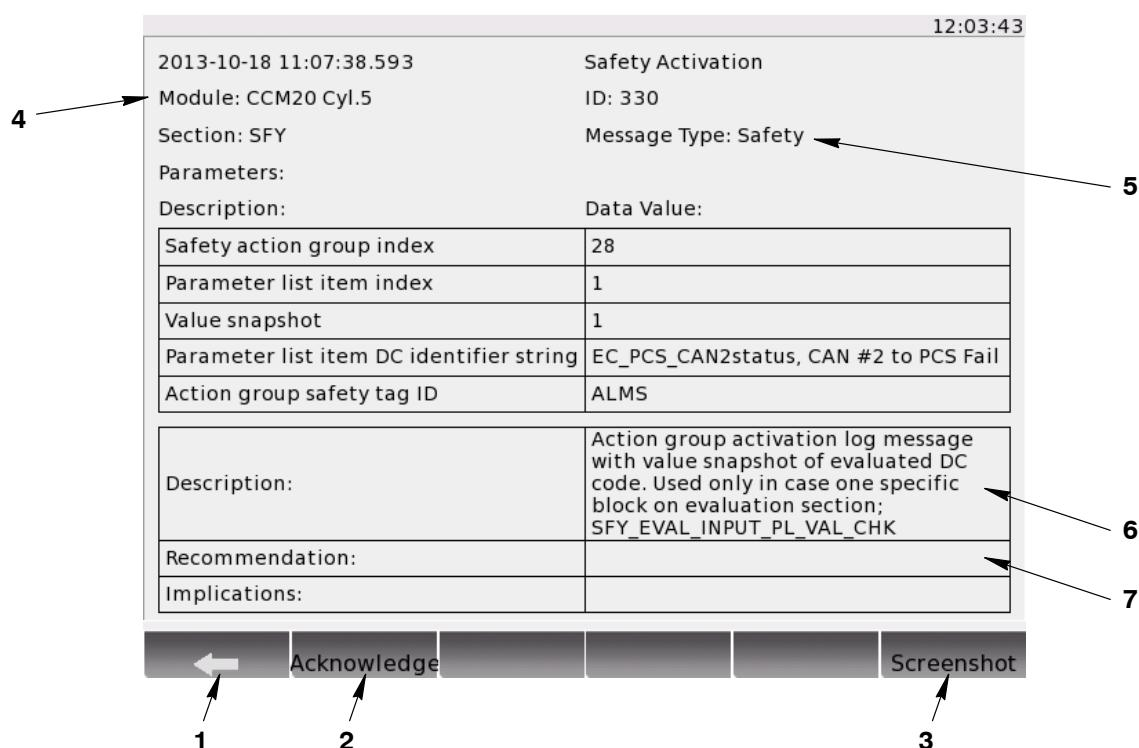

Fig. 29: Log Entry Data
- 7) When the cursor is on a selected log message, you push the rotary button. This shows a different screen, which has more data about this log entry (see Fig. 29).